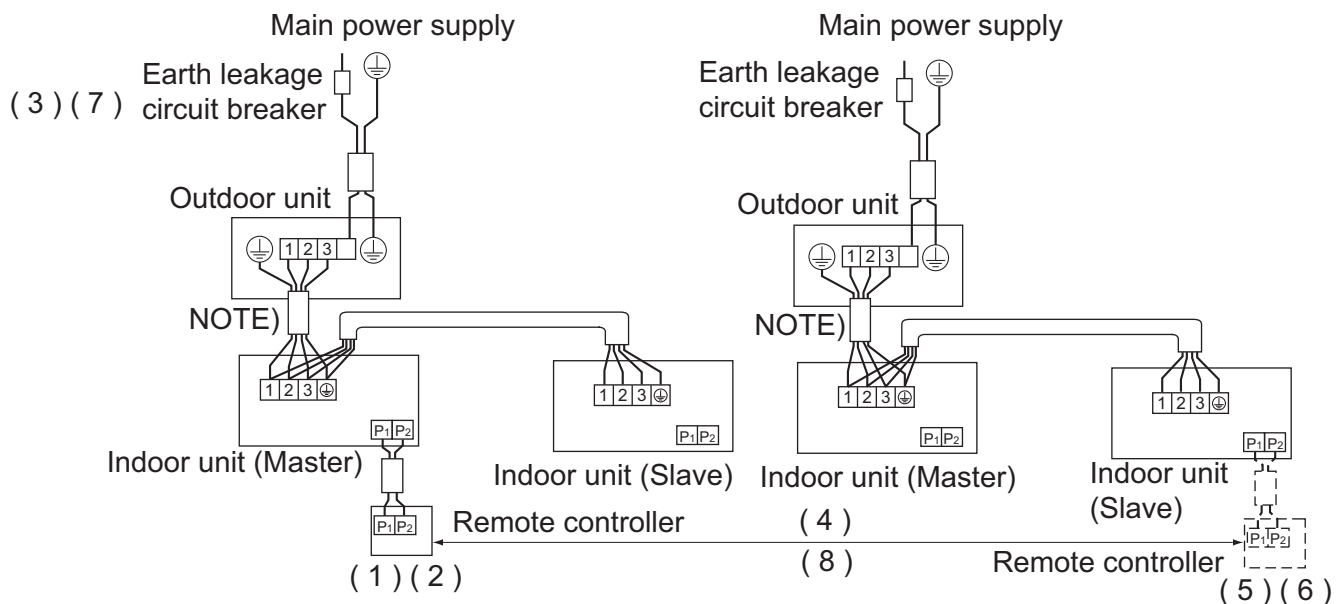

Fig. 29
- Perform the following procedure when setting the master and slave unit separately. (Refer to Fig. 29)
- (1) Change the SECOND CODE NO. to "02", individual setting, so that the slave unit can be individually set. (Refer to Table 9)